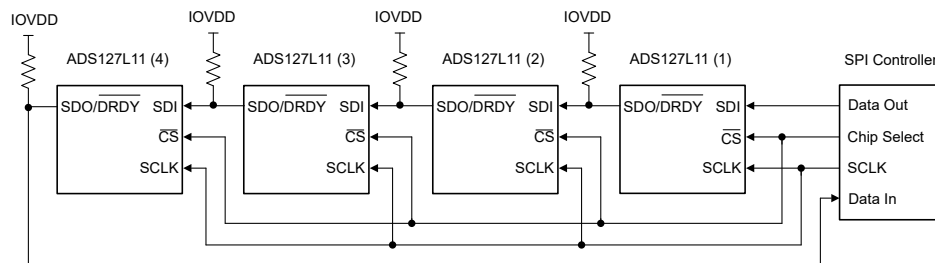

图 8-36. Daisy-Chain Connection
图 8-36 shows four devices connected in a daisy-chain configuration. The SDI of ADS127L11 (1) connects to the host SPI data out, and SDO/DRDY of ADS127L11 (4) connects to the host SPI data input. The shift operation is simultaneous for all devices in the chain. After each ADC shifts out the conversion data, the data of SDI appears on SDO/DRDY to drive the SDI of the next device in the chain. The shift operation continues until the last device in the chain is reached. The SPI frame ends when  $\overline{CS}$  is taken high, at which time the data shifted into each device is interpreted. The SDO/DRDY pin must be programmed to data output-only mode.
图 8-38 shows the detailed input data sequence for the daisy-chain write register operation of 图 8-36. 40-bit frames for each ADC are shown (24-bits of data, with the STATUS and CRC bytes enabled). Command operations can be different for each ADC. The read register operation requires a second frame operation to read out the register data.
图 8-39 shows the clock sequence to read conversion data from the device connection provided in 图 8-36. This example illustrates a 32-bit output frame (24-bits of data, with the CRC byte enabled). The output data of ADC (4) is first in the sequence, followed by the data of ADC (3), and so on. The total number of clocks required to shift out the data is given by the number of bits per frame  $\times$  the number of devices in the chain. In this example, 32-bit output frames  $\times$  four devices result in 128 total clocks.